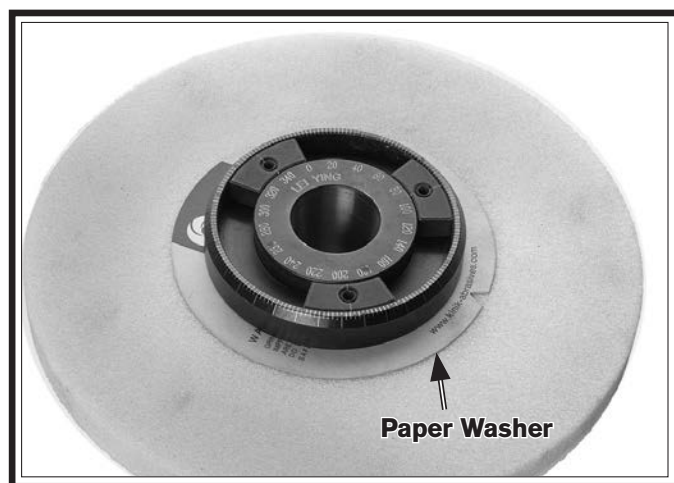

Figure 27. Important paper washer.
8. Inspect for the paper washers on both sides of the grinding wheel (see **Figure 27**). These paper washers serve as cushions between the retaining washer and the grinding wheel seat. Without the washers, cracks can be spawned from the center of the wheel when the retaining nut is tightened. Over time, these cracks can radiate outward and the wheel may explode causing possible injury.